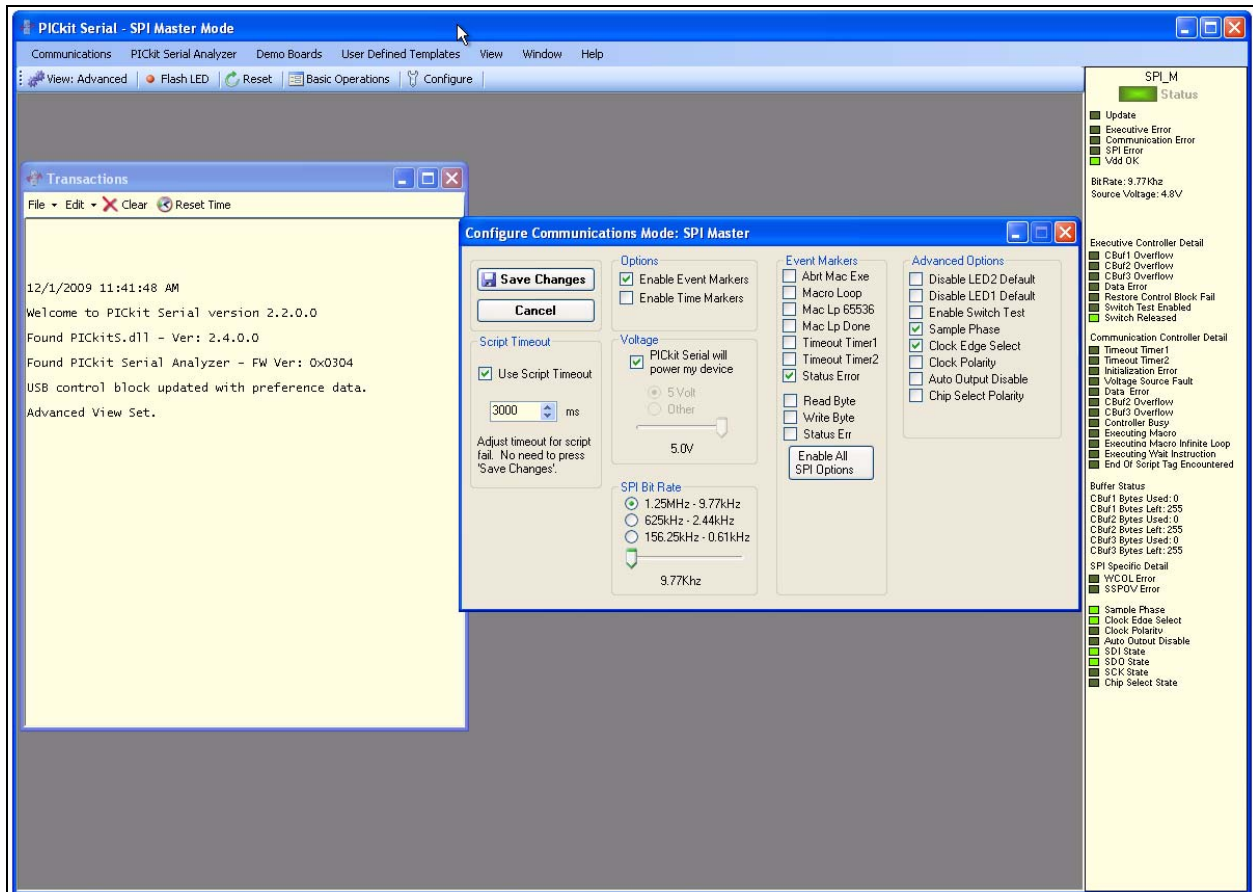

FIGURE 2-7: PICkit Serial Configure Communications Mode Window.
Figure 2-7 shows the Configure Communications Mode window. Ensure that your window options and settings are the same as this window, and then select the “Save Changes” button. The “Configure Communications Mode” window may now be closed.
6. Ensure that the Master SPI configuration is appropriately configured (see Figure 2-7).